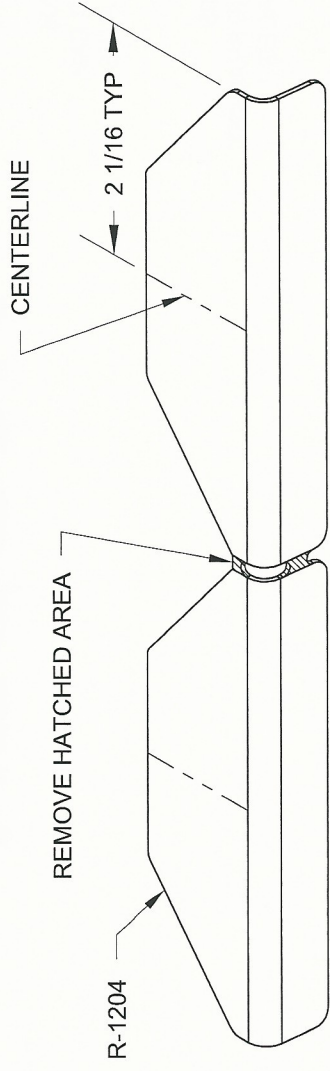

FIGURE 1:
- Step 2: Separate the R-1204 Spar Caps by removing the material shown hatched in Figure 1.